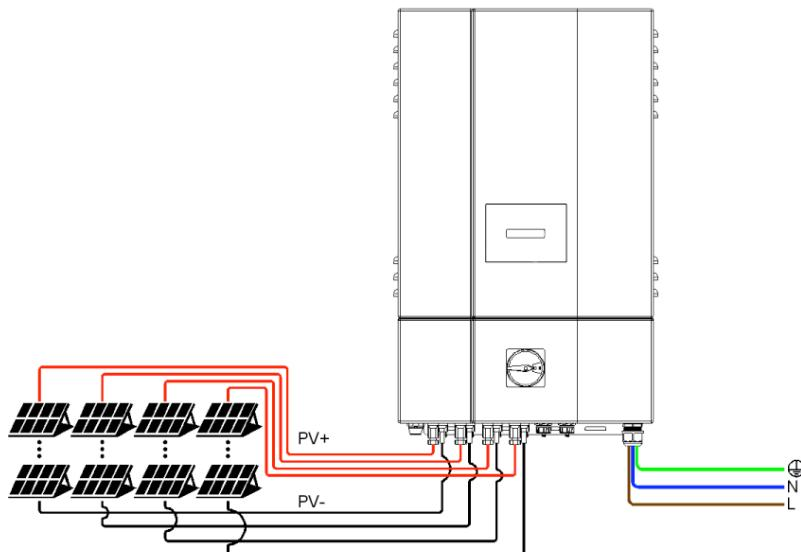

Fig 2.3.2.1 PV-terminal connection
Up to four (4) (three (3) for ISMGT128) PV strings (4 pairs) can be connected to the ISMGT1 inverter as shown in the figure 2.3.2.1. The PV strings will be connected in parallel inside the wiring box.